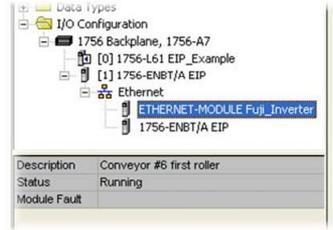

Figure 81: Online Module Status
- 7) Switch to online mode and download the project to the PLC. Verify that the newly-added inverter is available and operating correctly by observing any indications shown on the inverter’s icon. When the inverter’s icon is selected, its status and any available error messages will be displayed in the area below the project tree. Refer to Figure 81. Also confirm that the interface card’s “Network Status” LED should be solid green, indicating an “online/connected” state.